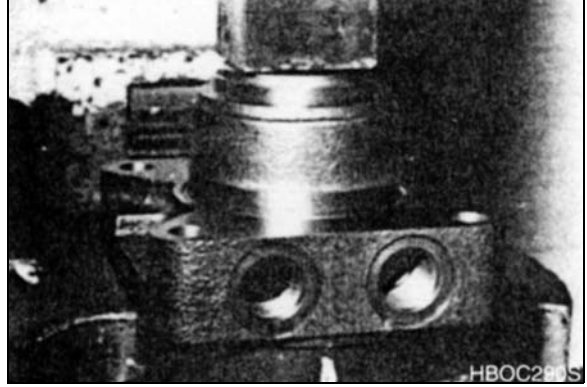

Figure 43
The Large Frame Series MB and ME Torqmotor™ dirt and water seal (20) must be pressed in with the lip facing out and until the seal is flush to 0.020 inches (0.51 mm) below the end of housing. See Figure 43.